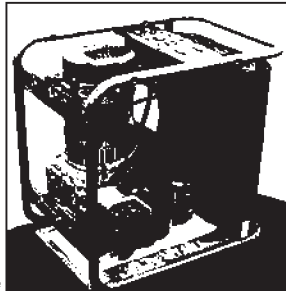

Figure 2
- Place a 1" thick x 1' square piece of wood on the ground in front of the engine. **NOTE:** Some units may require more than one piece of wood to properly support the engine. Failure to support the engine properly could result in isolator damage. With the help of another person, tilt the generator and rest the recoil starter on the wood. See Figure 2. **NOTE:** This will support the gasoline engine during assembly and make assembly easier.